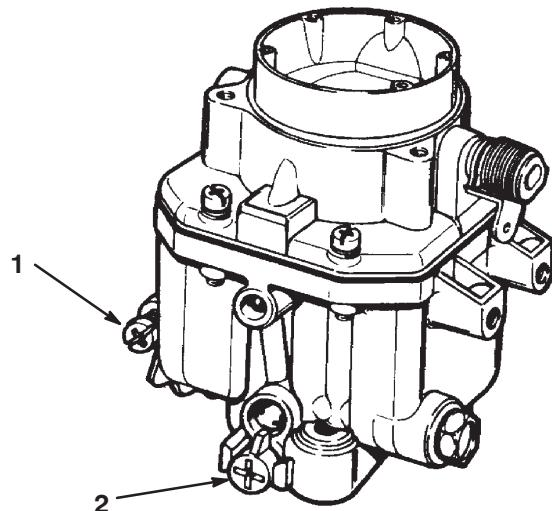
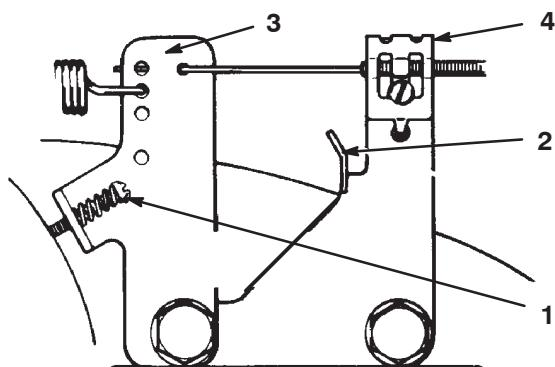

Figure 25
Figure 26
(Fig. 25) should be touching the high speed stop. Loosen the cable clamp and adjust the cable so that the lever touches the stop.
6. With the cable clamp loose, turn the low speed screw on the governor (Fig. 26) so that the throttle stop screw (Fig. 25) on the carburetor controls the engine speed. Adjust the carburetor throttle stop screw for 1000 RPM idle.